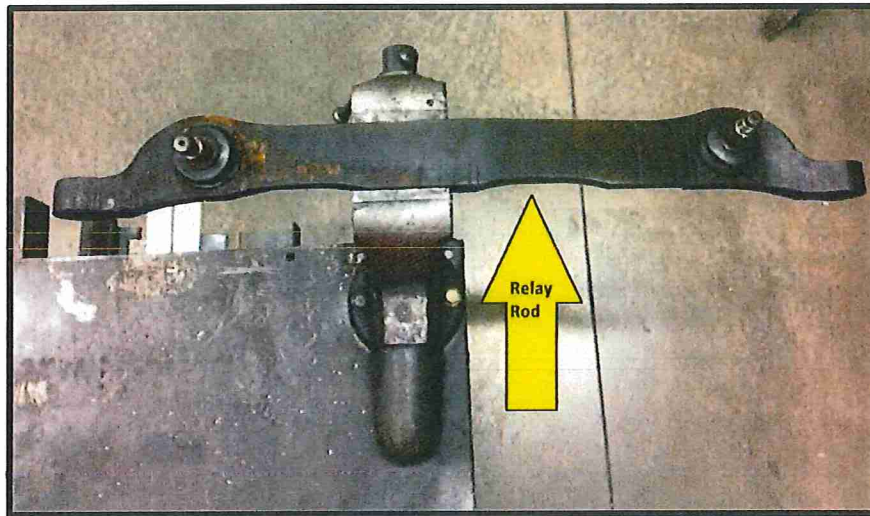

FIG. 5-1
5. Remove the relay rod assembly from the cradle and secure in a vise for repair. Refer to FIG. 5-1.